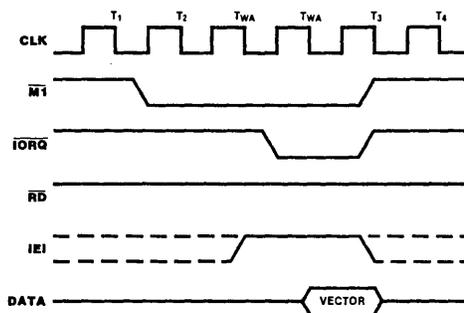

Figure 14. Interrupt Acknowledge Timing
**Interrupt Acknowledge Timing.** Figure 14 shows interrupt acknowledge timing. After an interrupt request, the Z-80 CPU sends an interrupt acknowledge ( $\overline{MI}$  and  $\overline{IORQ}$ ). All channels are inhibited from changing their interrupt request status when  $\overline{MI}$  is active—about two clock cycles earlier than  $\overline{IORQ}$ . RD is High to distinguish this cycle from an instruction fetch.